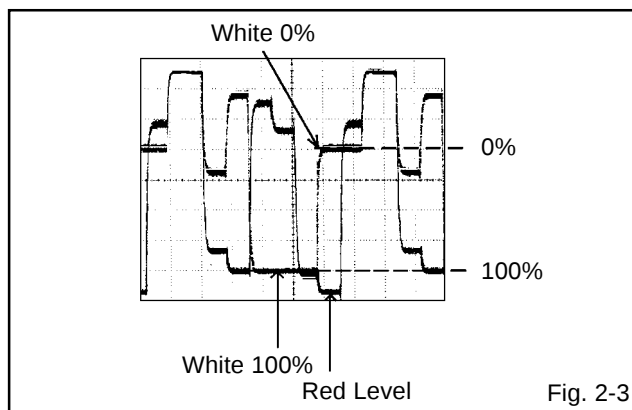

Fig. 2-3
8. Press the VOL. UP/DOWN button on the remote control until the red color level is adjusted to 110% of the white level. **(Refer to Fig. 2-3)**